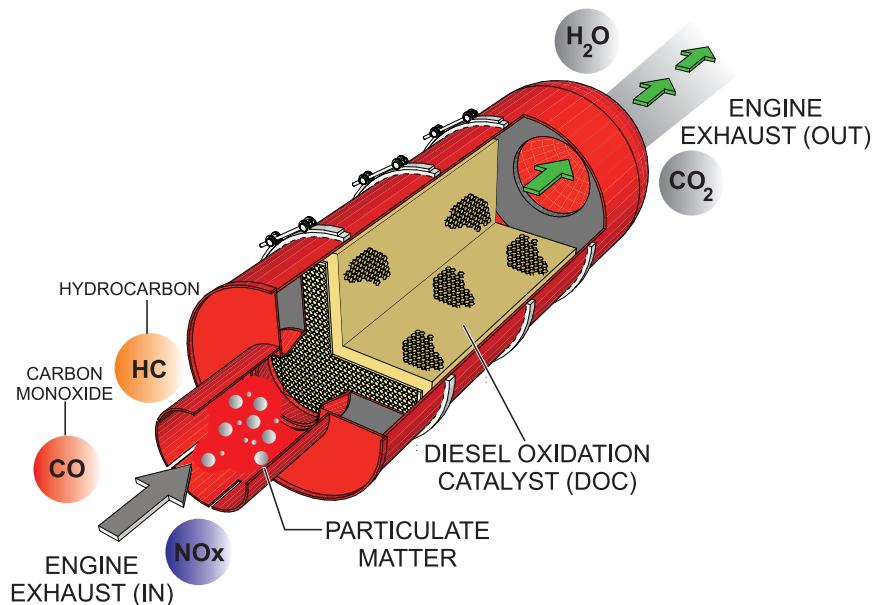

Figure 73. Diesel Oxidation Catalyst (DOC)
The DOC device (Figure 73) helps filter out large amounts of harmful nitrogen oxides (NO_x) and particulate matter (PM) which are emitted by diesel engines. These exhaust emissions pose serious environmental and health risks. It is important to maintain and service the DOC emission safety device on a periodic basis.